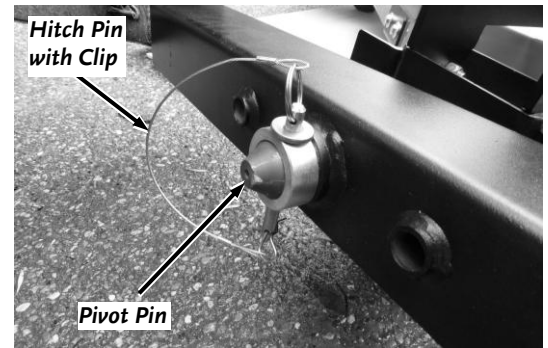

Figure 6
- Secure the Pivot pin to the 3-Point Bracket with the Locking Ring and Hitch Pin with Clip (**Figure 6**).